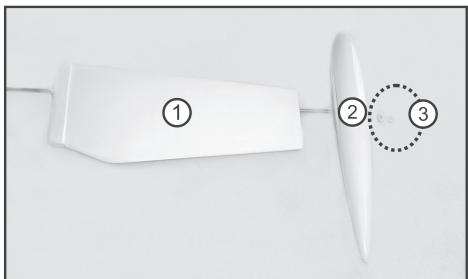

Figure 2a
Figure 2a shows the keel (1) and the ballast (2) and a washer plus M3 nut for attachment of the ballast keel (3).